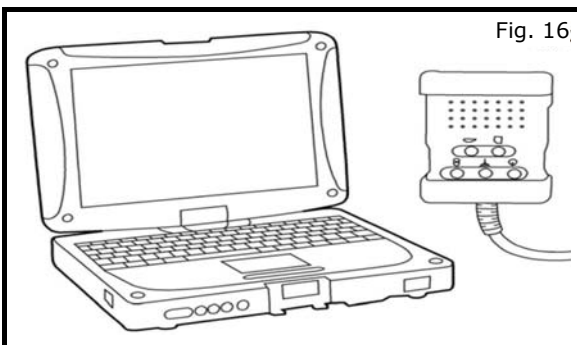

Fig. 16
- b) Connect CONSULT III plus tool to vehicle OBD connector as shown in Fig. 16.